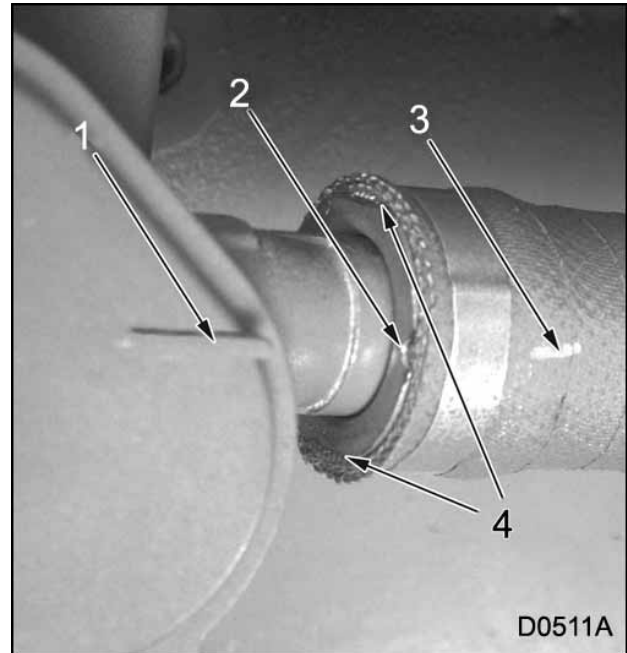

Figure 97 EGR coolant inlet coupling
4. Align single index mark (if visible) or one of the recesses on the end of the EGR inlet coolant coupling (Figure 97) with index feature located on coolant supply port cover.